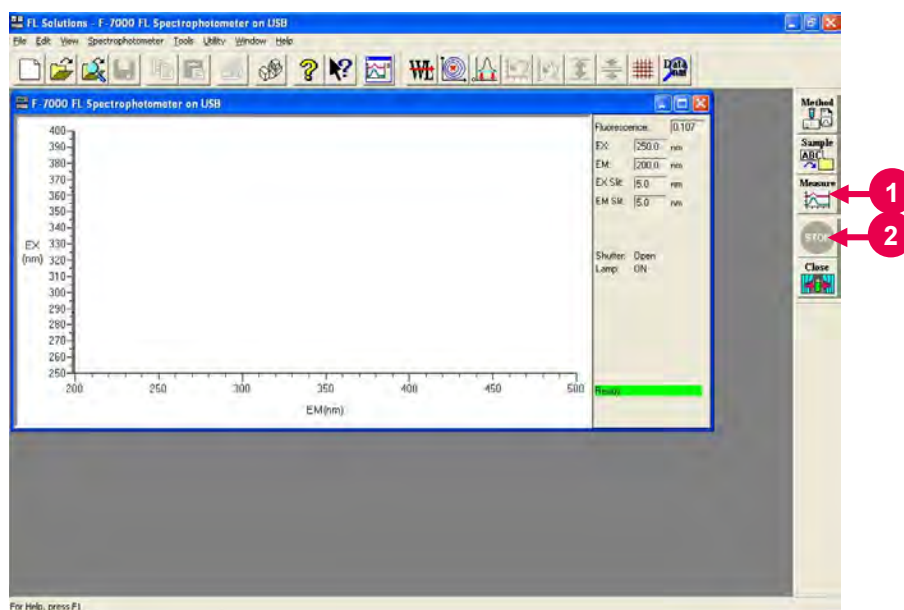

Fig. 5-9 Monitor Window
- (1) Make sure an analysis method has been set and a sample has been defined. (Refer to “5.2 Creating an Analysis Method” and “5.3 Defining Your Samples.”)
- (2) Set a sample in the sample compartment and click the  button on the Measurement toolbar to start measurement. (See ① in Fig. 5-9.)
- (3) For halting the measurement midway, click the  (stop) button on the toolbar. (See ② in Fig. 5-9.)